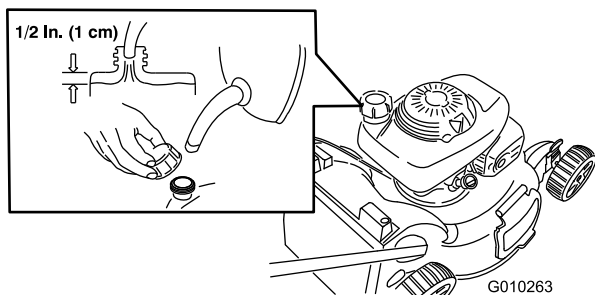

Figure 13
1. Clean around the fuel-tank cap, and remove the cap from the tank (Figure 13).